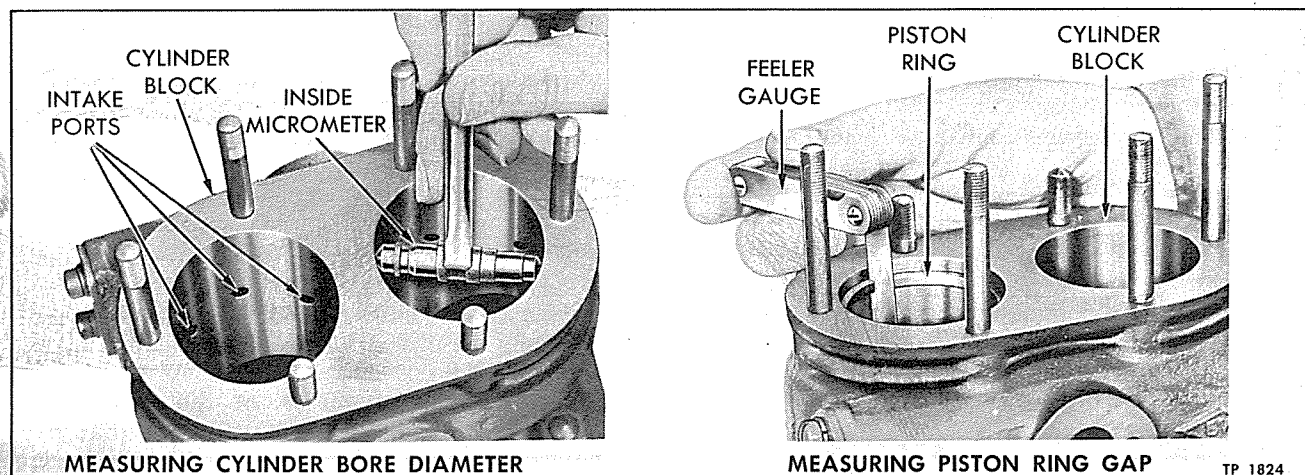

Figure 5—Compressor Cylinder Bore and Piston Ring Inspection
9. Cylinder Block. If cylinder block is cracked or damaged in any way, it must be replaced. Examine cylinder bores for scoring, out-of-round, and taper. Bores may be checked for out-of-round and taper using an inside micrometer as shown in figure 5. Bores which are scored or out-of-round more than .003 inch, or tapered more than .003 inch must be rebored, ground, or honed oversize. Pistons are available in .010, .020, and .030 inch oversize. Cylinder bores must be smooth, straight, and round, and must be finished with a 500 (or finer) grit hone. Clearance between piston and cylinder wall must not be less than .002 inch or more than .004 inch.
gap (fig. 5). Used rings which have a gap of more than .020 inch must be replaced. New rings must have .010 to .015 inch gap.